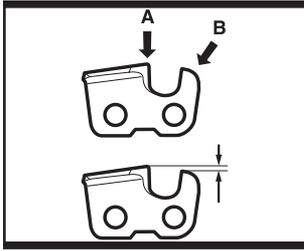

Fig. 31
- 2). The height-distance between the tooth A and the ridge B is the cutting depth. When sharpening the chain you have to consider the next points (See Fig.31 & 32):